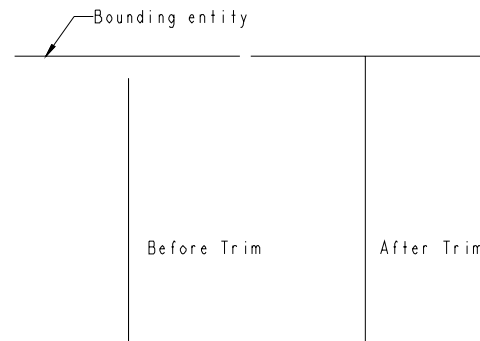

Figure 1-20 The Bound option
submenu. You will be prompted to select a bounding entity to trim to. This is the bounding limit up to which the line will be deleted or extended. Figure 1-20 shows the line extended up to a bounding entity.
3. Select the line to be trimmed using the left mouse button. The line is extended up to the bounding entity. This is shown in Figure 1-20. You can change the bounding entity anytime by pressing the middle mouse button and selecting another entity as the bounding entity.